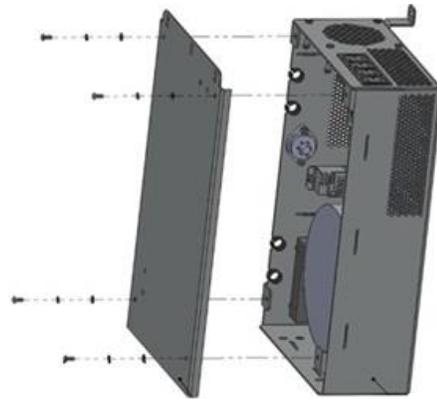

Figure 121: Power Box Cover removal
6. Using a 2.5 mm hex driver, remove the four screws, washers and lock washers securing the power box cover (Figure 121).
9. Using the 2.5 mm hex driver, place and tighten four 2.5 mm hex screws, each with a 2.5 mm washer and lock washer to secure the power box cover to the power box (refer to Figure 121).